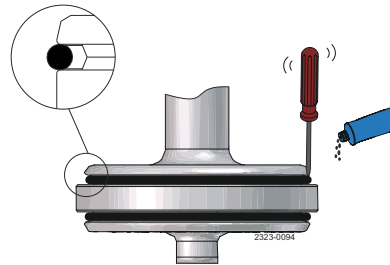

Figure 2:
- Fit the seal ring on the plug without pressing it into the groove. Be careful not to twist the seal ring. Use a screwdriver (two turns) to fit the seal ring properly and to ensure it is not twisted (see Figure 2).